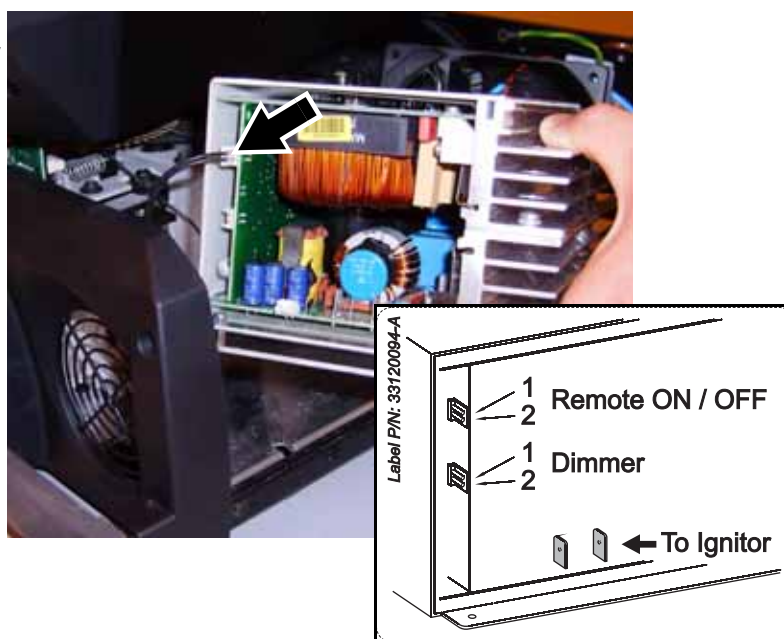

Figure 24
26. See Figure 24. A jumper will normally be fitted on the upper low-voltage multi-connector X301 (arrowed) on the ballast PCB. Remove the jumper and connect the pair of leads from the remote lamp on/off opto-switch to connector X301 as shown in Figure 24.